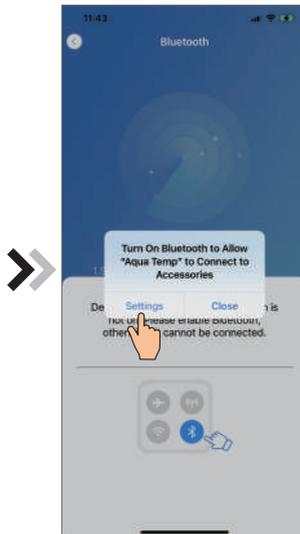
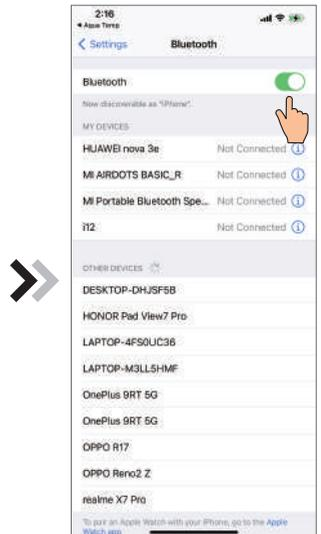

Fig.11 Enable bluetooth permission
Fig.12 Bluetooth setting interface
5. Click "Settings" (Fig.11) to enter bluetooth setting interface(Fig. 12);